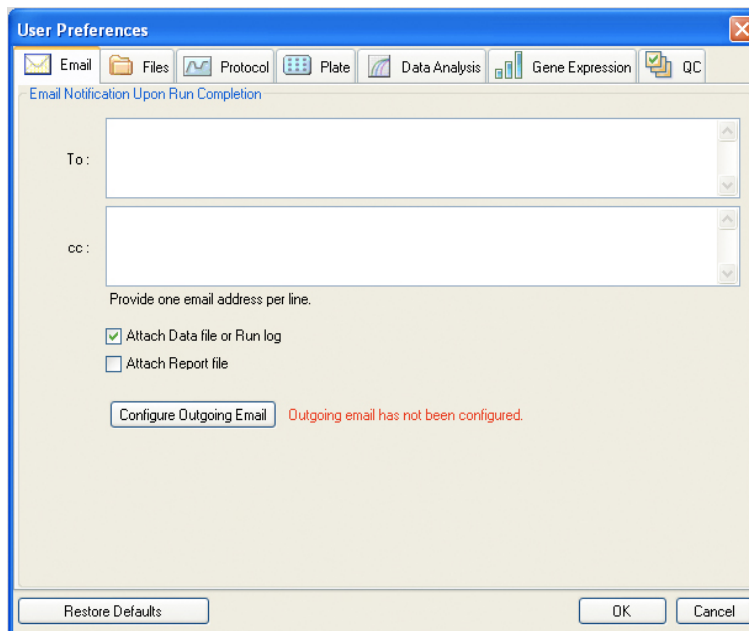

Figure 74. User Preferences window with tabs.
- Click one of the tabs (Figure 74) to view or change preferences
Select the **Email** tab (Figure 74) to enter the email addresses where you want to receive confirmation of the completion of runs. The software can send an attached data file or report file with the email when the checkboxes next to these options are checked.